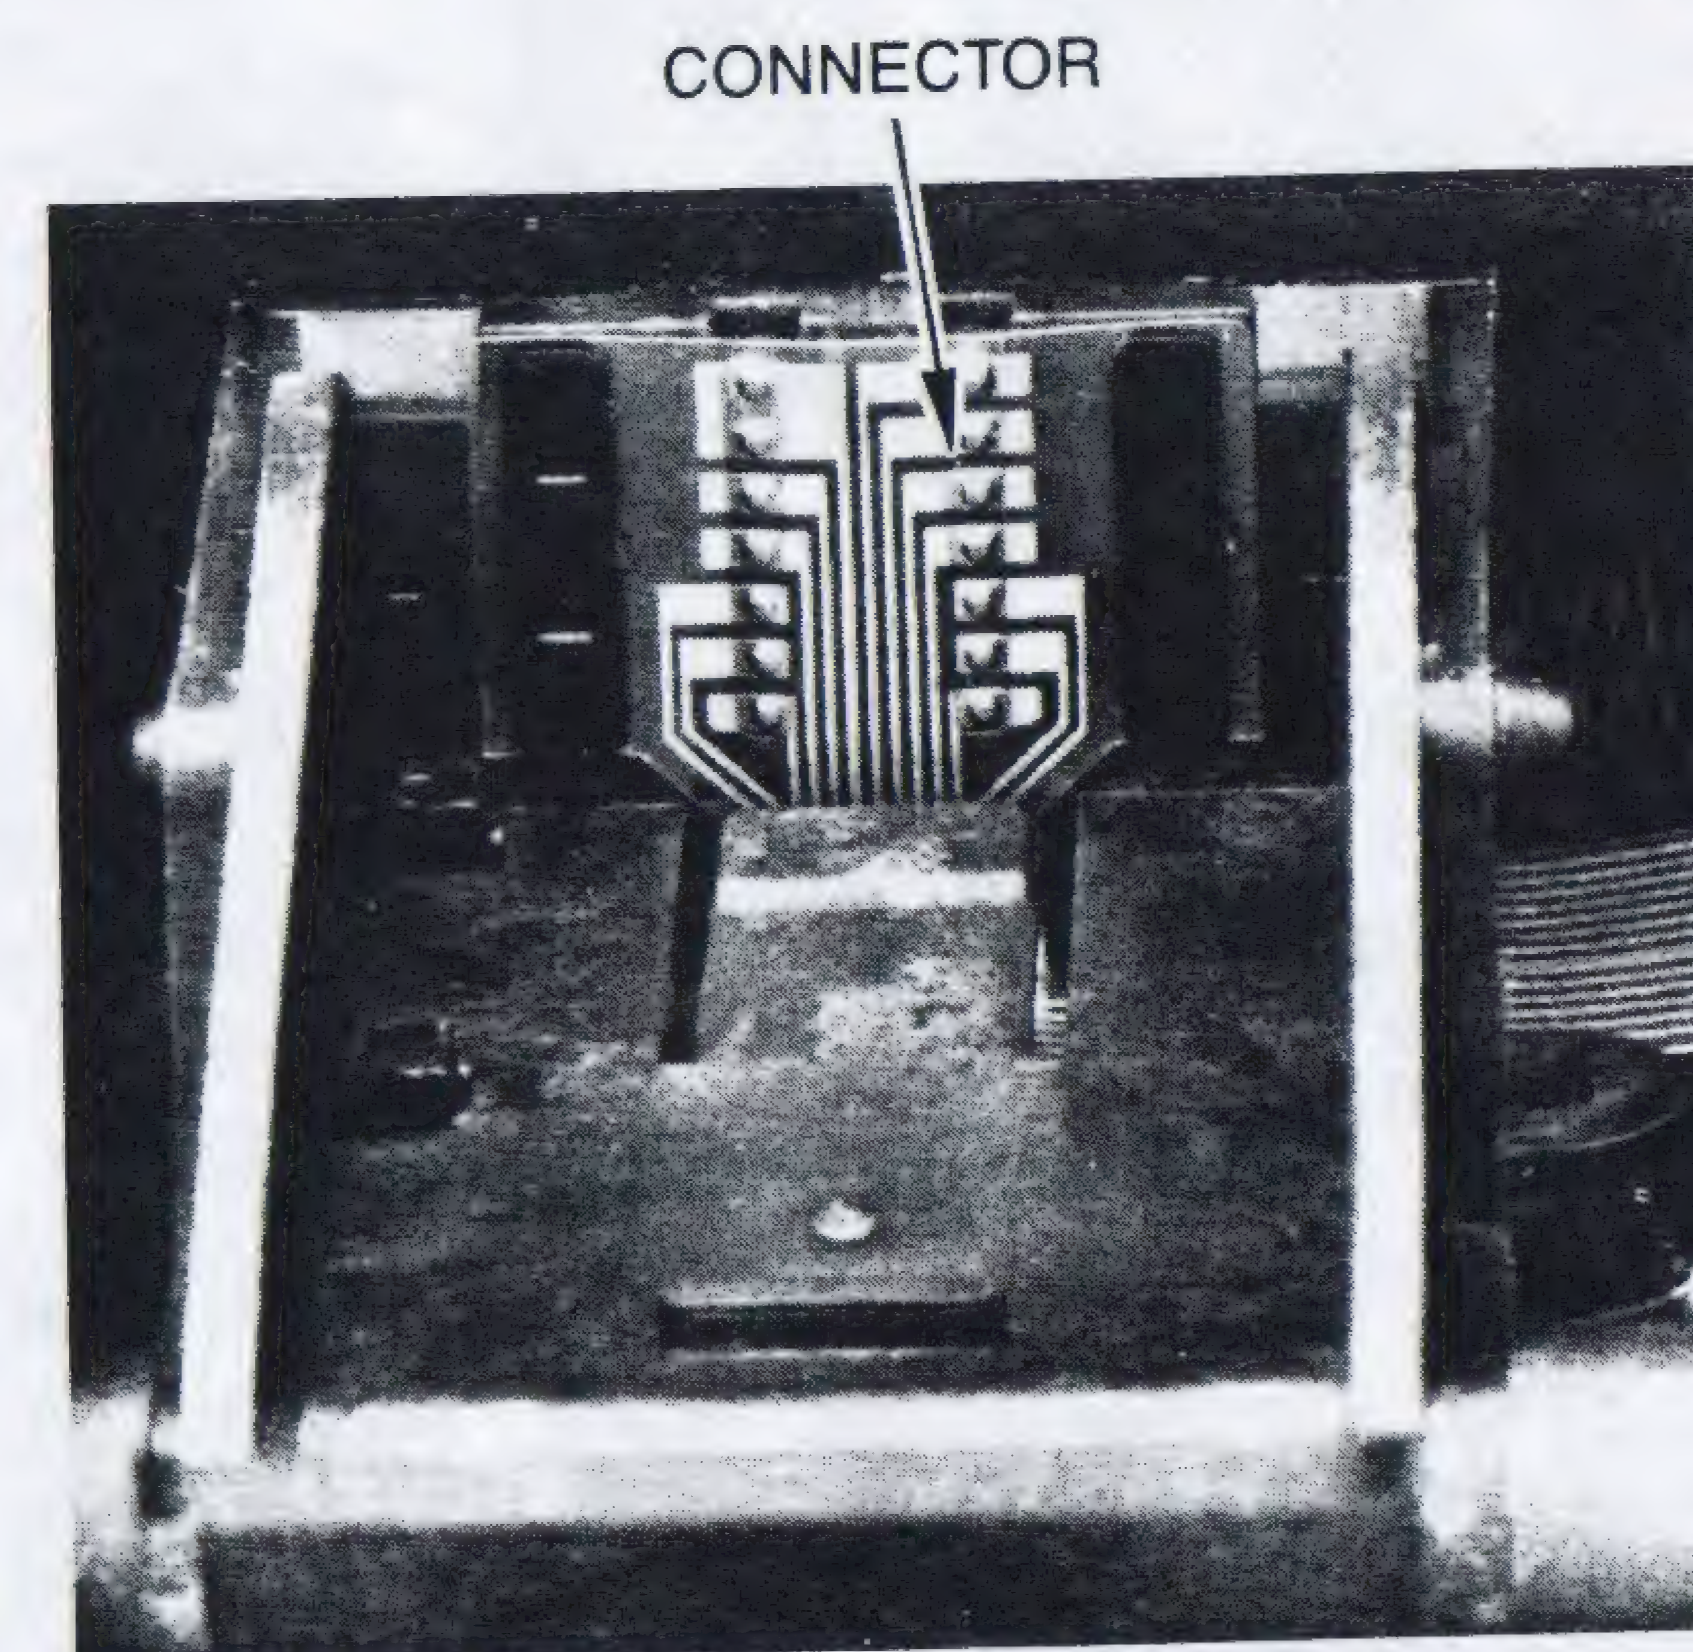

Figure 4-3 Carriage Electrical Connector
- Lightly wipe the electrical connector of the carriage using a cotton swab dipped in alcohol (see Figure 4-3).